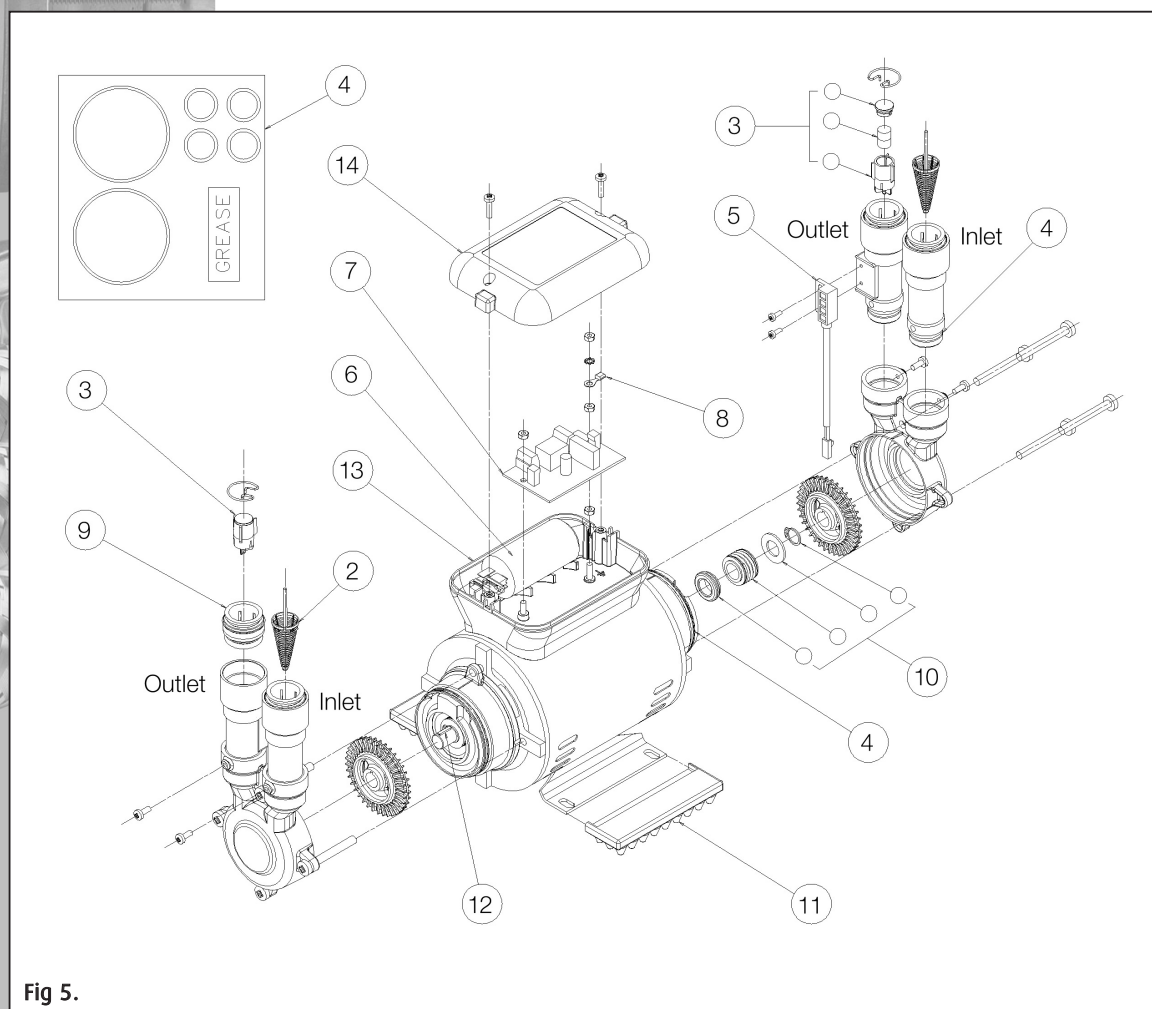

Fig 5.
- At this point we recommend disconnecting the inlet flexible couplings to the pump and flush out any debris from the integral strainers. This will ensure the best performance from the shower. See Fig. 5. **NOTE: Remember to isolate the water supply before removing the hoses to check the filters.**